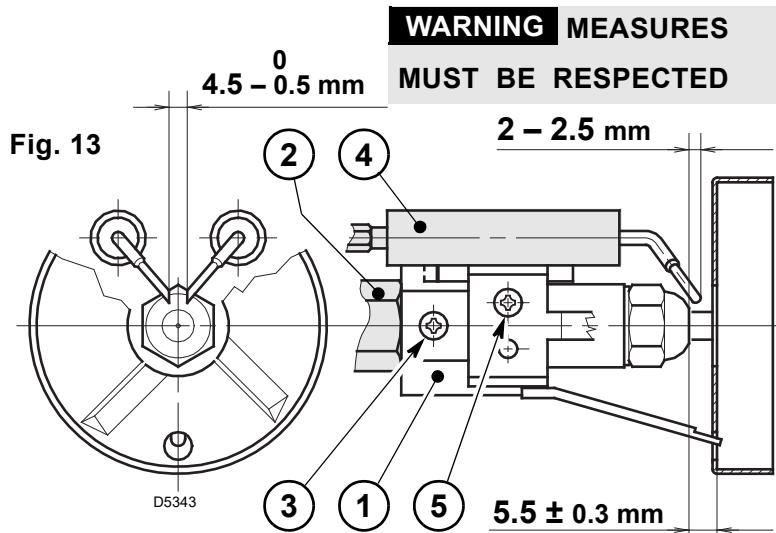

Fig. 13
- Hook the burner to the flange (1), by removing the blast tube (2) after loosing the fixing screws (3).
- Remove the small cables (4) from the electrodes and the diffuser disc-holder assembly (5) from the nozzle-holder assembly after loosing its fixing screw (3, Fig. 13, page 7).
- **Screw the nozzle (6) correctly and tighten it as shown in the figure.**
- Withdraw the small cables (4) from the electrodes, remove the diffuser disc-holder assembly (9) from the nozzle-holder assembly (1) after loosening screw (3, Fig. 13).
- Screw the nozzle (10) correctly and tighten it as shown in figure.
- In the sketch the combustion head is set for an output of 0.85 GPH at 15 bar. The set-point 3 of the regulating rod (8) is at the same level with the outside plane of the nozzle-holder assembly (1) as shown in the schedule;
4.2 ELECTRODES ADJUSTMENT (see Fig. 13)